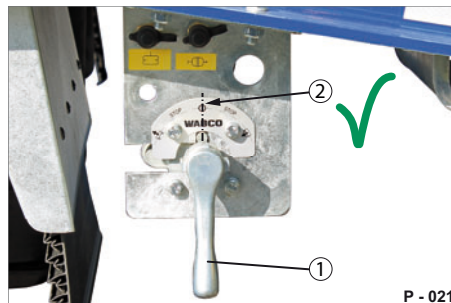

Fig. 48 Turning lever (at rear)
If the turning lever (Fig. 48/1) is in drive position (Fig. 48/2), it is pulled out and cannot be turned.
► Bring the turning lever (Fig. 48/1) into drive position before starting the journey.